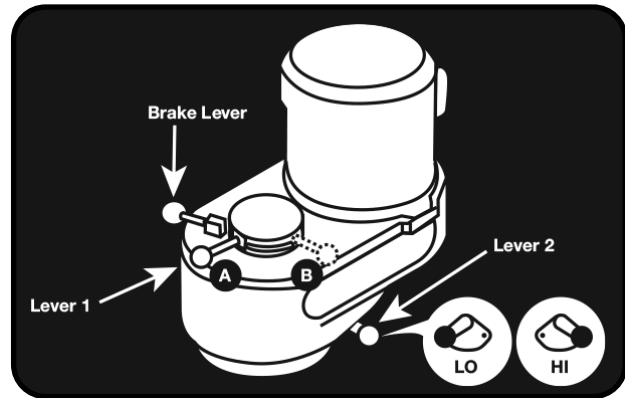

Fig. 4.4
4. Lever 1 is shown in Fig. 4.4 in the HIGH or LOW position
NOTE: If this step was not successful, use HIGH/LOW range lever (Lever 2 Fig. 4.4) to reset speed range, then repeat this step until you are certain that spindle is seated into spindle clutch.